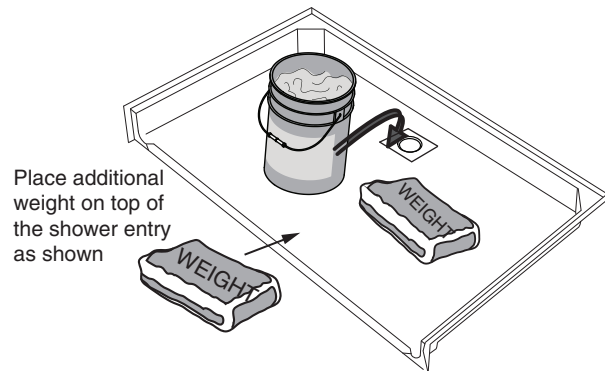

Figure 12
- 7** PLACE 50 POUNDS OF WEIGHT ON TOP OF DRAIN AREA, as shown in Figure 12 to ensure the unit is making contact with the epoxy.